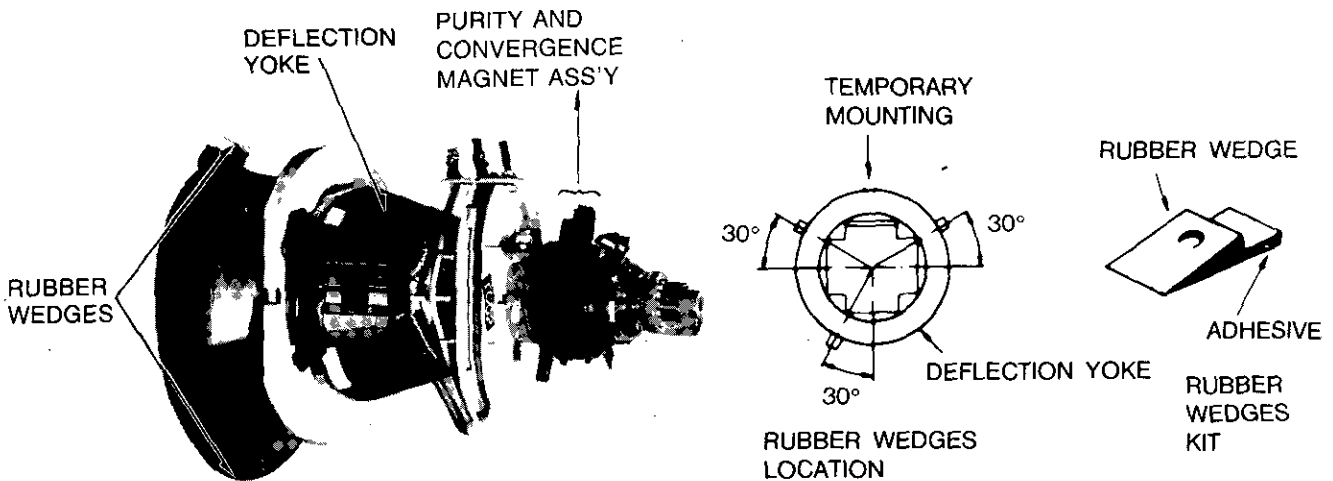

Figure 8
CAUTION: Convergence and Purity have been factory aligned. Do not attempt to tamper with these alignments. However, the effects of adjacent receiver components, or replacement of picture tube or deflection yoke may require the need to readjust purity and convergence. Convergence magnet assembly and rubber wedges need mechanical positioning following the figure 8. Before attempting any convergence adjustments this receiver should be operated for at least fifteen minutes. If adjustments are required the adjustments should be made in the following sequence.
2. Adjust DY to obtain a better convergence in the circumference by orbital movement of the front of the yoke, then secure the DY in appropriate position by placing the wedges as illustrates in figure 8. Tighten screw holding the DY. Stick 3 adhesive tapes on wedges as shown in figure 8.